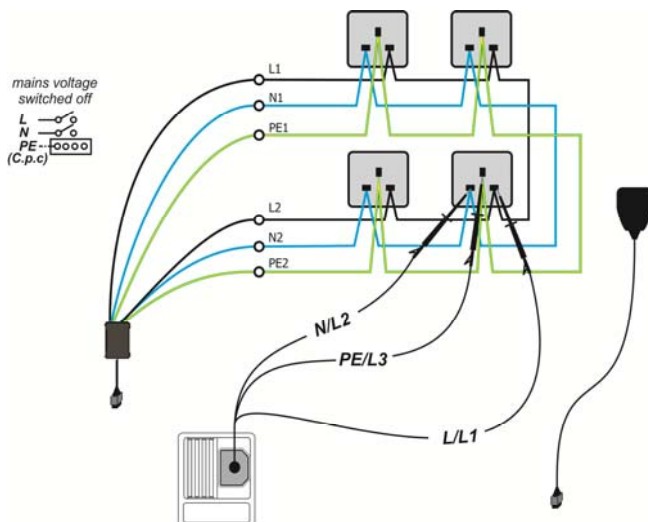

Figure 5.22: Step 2 – measurement of resistance R_1+R_N and R_1+R_2
- Easy switch must stay connected to the final ring circuit The electrical installation must be de-energized during the test (see *Figure 5.22:*).